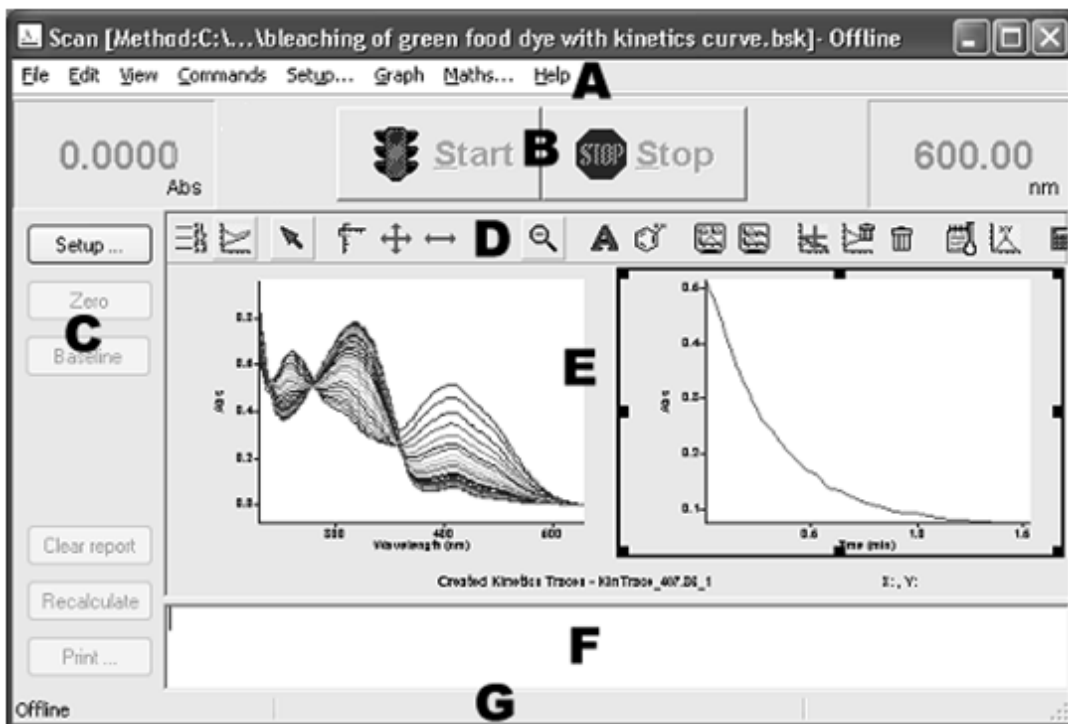

Figure 1. A typical Cary WinUV software screen
A typical Cary WinUV software screen consists of a Menu line ('A' in **Figure 1**), Instrument buttons (B), Command buttons (C), Toolbar (D), Graph area (E), Report area (F) and Status line (G).